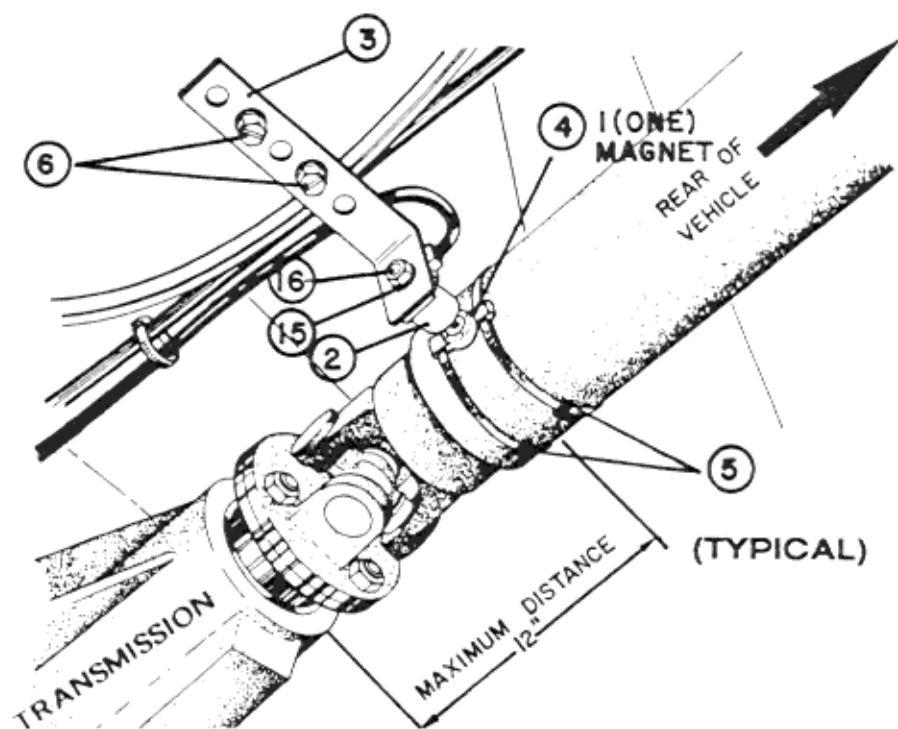

FIGURE 9
TYPICAL REAR WHEEL DRIVE INSTALLATION SEE FIGURE 9
2. Bend the bracket (P/N 3) as necessary to make the magnetic speed sensor point to the middle of the drive shaft, at the 3 o'clock or 9 o'clock position side of drive shaft, mount bracket (P/N 3) and magnetic speed sensor (P/N 2) not to exceed 12" behind transmission. See Figure 9 or 10